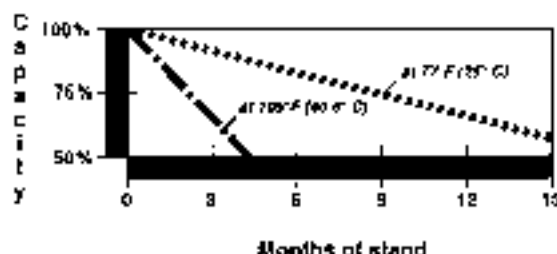

Figure 1-9. Battery Self-Discharge Rate
1. See Figure 1-9. If battery has been replaced, insert bolt through battery negative cable (black, 14) into threaded hole of battery negative (-) terminal (3). Tighten bolt to 60-96 in-lbs (6.8-10.9 Nm).
2. Place the fully charged battery into the battery tray (4) terminal side facing primary cover.
See Figure 1-9. Self-discharge is a normal condition and occurs continuously at a rate that depends on the ambient temperature and the battery's state of charge. Batteries discharge at a faster rate at higher ambient temperatures. To reduce the self-discharge rate, store battery in a cool (not freezing), dry place.